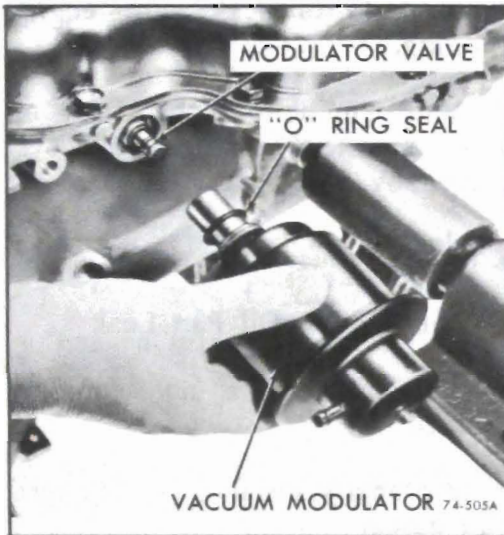

Figure 76-787
1. Install modulator valve into the case, stem end out. See Figure 76-787.